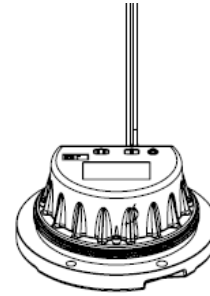

Figure 5-7
- Insert the lamp foot into A6 insertion piece and close the inner cover of the upper cover after it is aligned with the pin direction (see Figure 5-7).